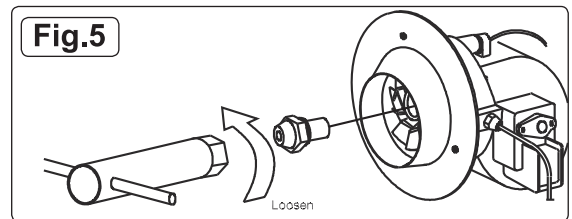

Fig.5
6.3.1 To clean dirt from nozzle, blow compressed air through nozzle front. It may be necessary to soak nozzle in clean kerosene / paraffin to help loosen any particles (Fig.5).